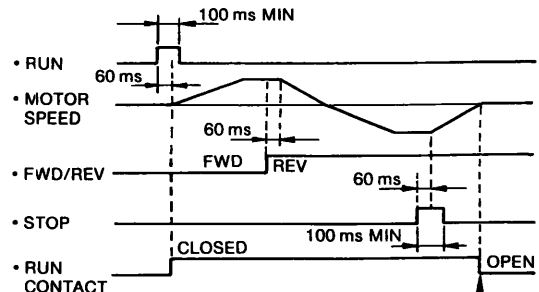

Fig. 15 Run and Stop Time Chart
Fig. 15 shows the run-stop time chart when notches ① and ② of operation mode setting switch 6S are set to OFF.